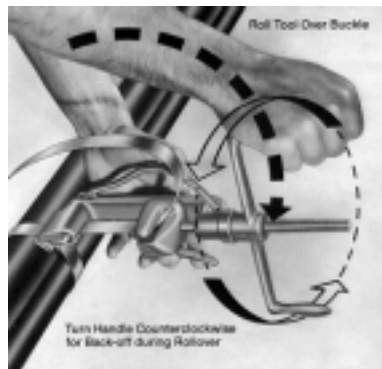

Fig. 3.11. Rolling tool
- Roll tool over buckle, backing off with tension handle throughout entire rolling operation (Fig. 3.11.). Failure to back off with tension handle throughout entire course of roll may result in breaking of band. There is no loss of tension as band released is used up in the bend.